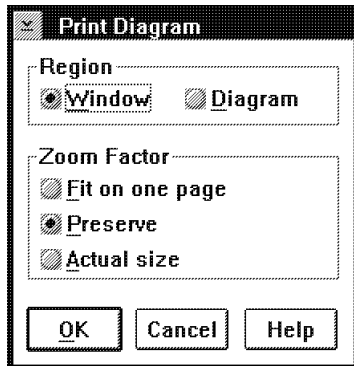

Figure 45. Print Diagram Window
1. Select **Print diagram** from the **Work process** pull-down in the Work Process window. You see the Print Diagram window shown in Figure 45 on page 82.